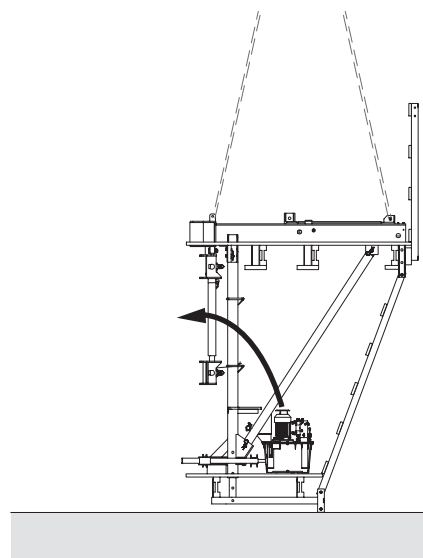

Fig. E2.05
17. Place the climbing unit on the front side. (Fig. E2.05)